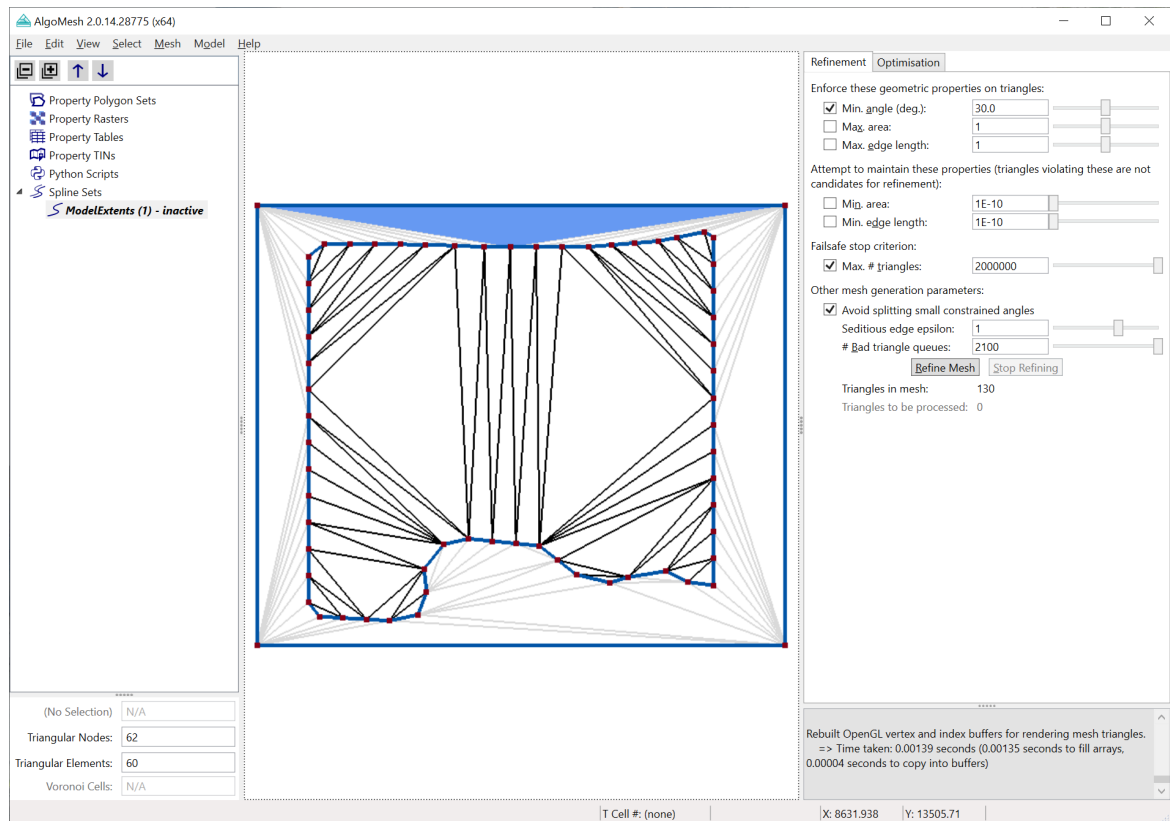

Figure 48: Pressing the minus ('-') key on the keyboard in Edit Mesh mode with a triangle selected turns all triangles in that enclosed area grey (inactive).
- **Press the minus ('-') key** on your keyboard, or equivalently, choose the **Exclude From Mesh Domain** option from the **Edit** menu. All of the triangles outside the model extents polygon should turn grey (inactive), as in Figure 48.